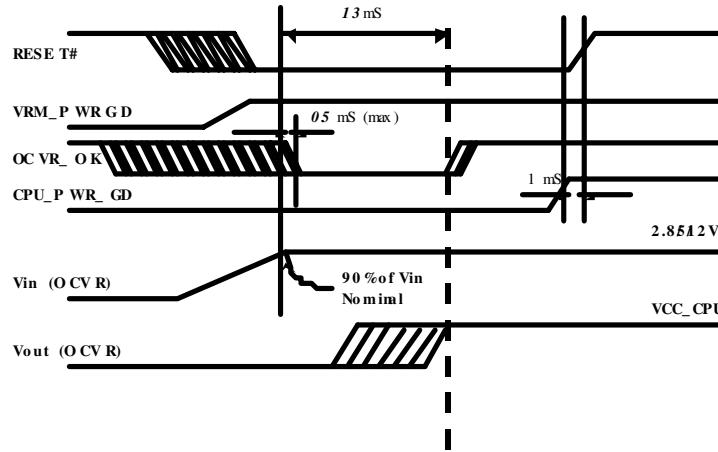
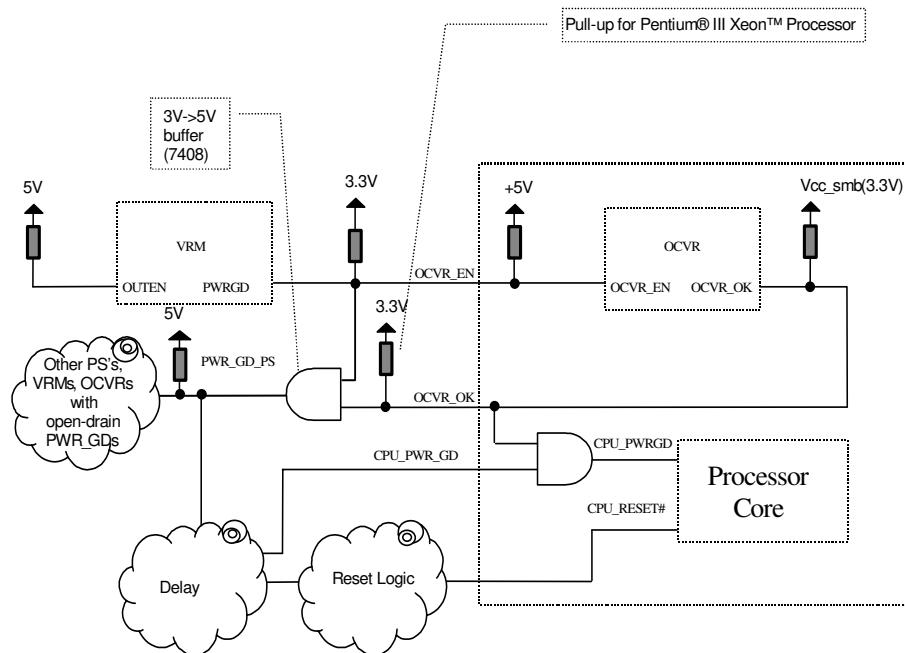

Figure 41. PWRGD Relationship at Power-On
Figure 42. PWRGD Implementation
This signal is the output enable for the internal cartridge voltage regulator. Driving this Low will inactivate the outputs of the OCVR. This is an open drain signal referenced high to +5V through a 10KΩ resistor within the cartridge to activate the VRM when not driven low (this to satisfy legacy requirements). Refer to Figure 41 and Figure 42 For PWRGD relationships at Power up.
This is an open drain compatible output from the On-Cartridge Voltage Regulator Module (OCVR) indicating that its outputs are enabled and operating within specifications. This signal is referenced to Vcc_SMB (+3.3V) through a 10KΩ resistor, and should be used in conjunction with an equivalent signal from the host power system to generate the CORE_PWRGD signals for the processor cores. Refer to Figure 41 and Figure 42 for PWRGD relationships at Power up. PWRGD assertion must lag OCVR_OK assertion.
specifications. Clean implies that the signal will remain low (capable of sinking leakage current), without glitches, from the time that the power supplies are turned on, until they come within specification. The signal must then transition monotonically to a high (2.5V) state. Figure 41 illustrates the relationship of PWRGD to other system signals. PWRGD can be driven inactive at any time, but clocks and power must again be stable before a subsequent rising edge of PWRGD. It must also meet the minimum pulse width specification in Table 14 and be followed by a 8 mS RESET# pulse.
Current VRM 8.3 (on baseboard) specification requires VRM_PWRGD to be asserted when its output is within 12% of nominal value. In the Pentium® III Xeon™ processor at 700 MHz and 900 MHz, PWRGD is logically ANDed with OCVR_OK before being applied to the core (PWRGD_CORE). According to legacy datasheet documents, RESET# negation is expected 1 mS after seeing PWRGD_CORE becoming valid by the processor core. The OCVR is not expected to provide a valid OCVR_OK signal assertion within 13 mS of seeing 90% of its input voltage. The delay before the assertion of OCVR_OK may cause a race condition between RESET# and the valid PWRGD_CORE that is seen at the core. It is recommended to relax the deassertion of RESET# to meet this critical constrain. Careful analysis needs to be done in existing platforms. Refer to Figure 41 and Figure 42 below for new timing relationship requirements.
1. VCC_CORE must be applied to the OCVR input before OCVR_OK can become valid (even though it could be pulled high if the VCC_SMB supply is turned on, see figure 41).